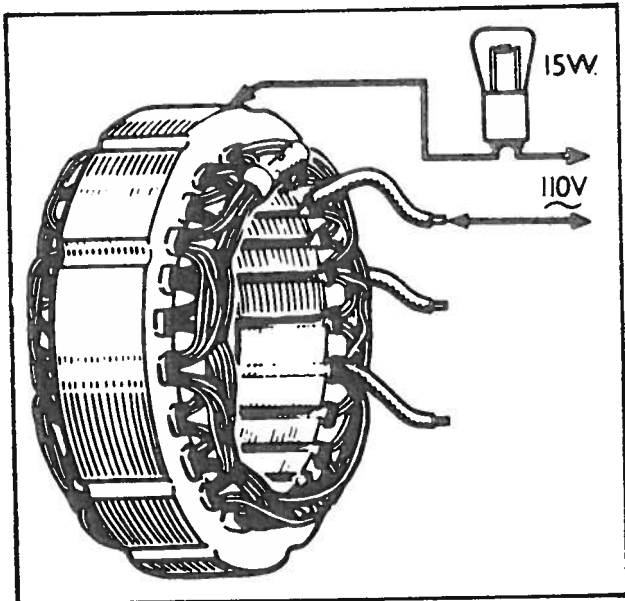

Fig. 20—Stator Winding Insulation Test
2. Test for defective insulation between stator coils and lamination pack with the mains test lamp (see Fig. 20). Connect the test probes between any one of the three cable ends and the lamination pack. If the lamp lights, the stator coils are earthing and a replacement stator must be fitted.